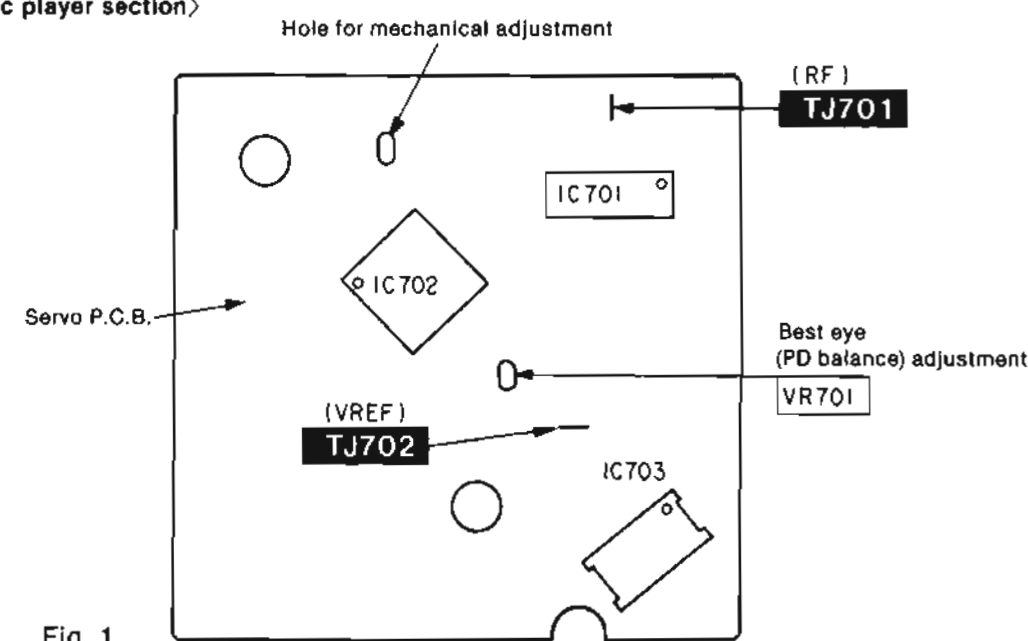

Fig. 1
3. Adjust **VR701** until the vertical fluctuation of RF signal is minimized and the eye pattern is most stretched. (Refer to Fig. 1 on page 31)